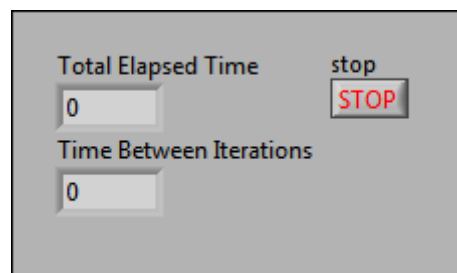
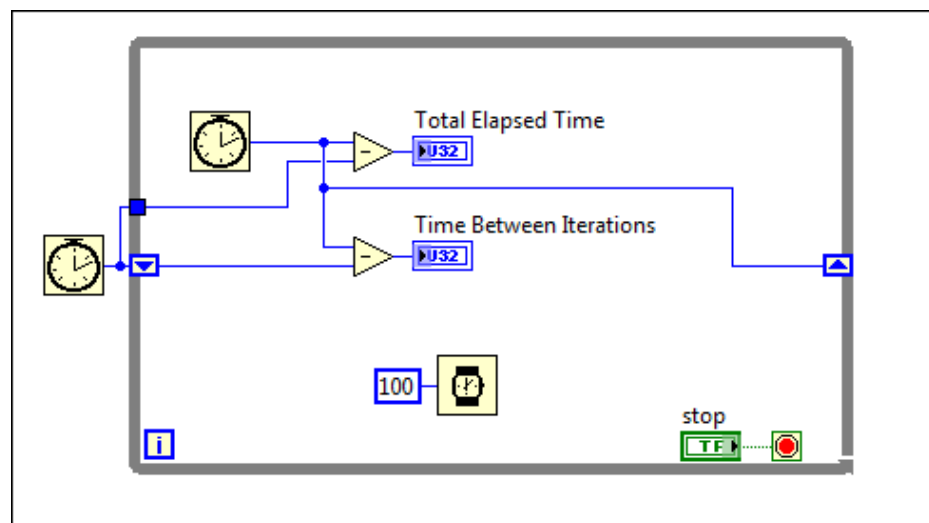

Figure 1. Elapsed Time VI Front Panel
Figure 2. Elapsed Time VI Block Diagram
The finished VI is shown in Figure 1 and Figure 2.
3. Add two Numeric Indicators to the front panel, as shown in Figure 1.
- ☐ Add two **Subtract** functions inside the loop, one above the other, as shown in Figure 2.